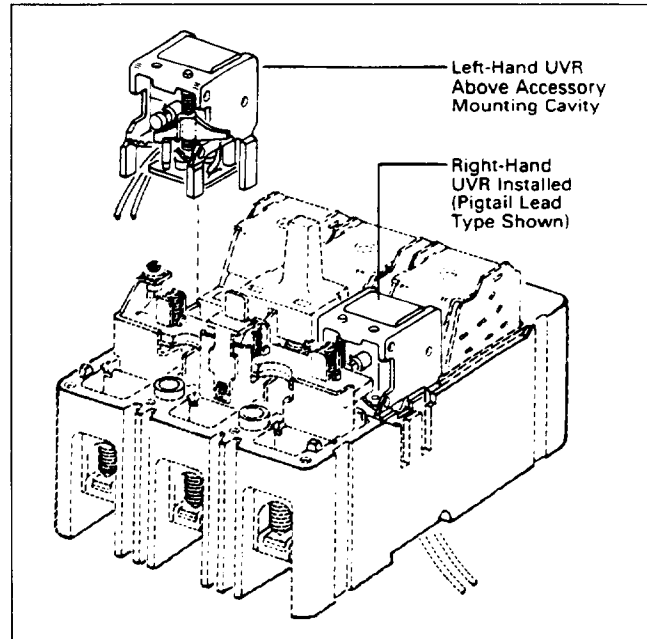

Fig. 2-3. UVR Installation Positions
- 2-6. Insert UVR as described in the following steps (see Fig. 2-3):